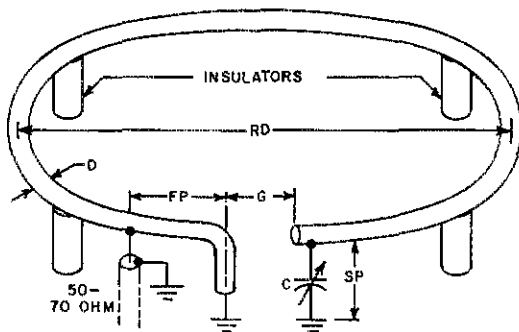

Fig. 1
For those who might not be familiar with the DDRR Antenna, a few words of explanation are in order. This antenna, dubbed the Directional Discontinuity Ring Radiator by its inventor, J. M. Boyer, was devised to satisfy a need for very low frequency antennas on ship board. Basically the antenna consists of a 1/4-wavelength element grounded at one end and wound into a single turn coil, a few conductor diameters above the ground (see Fig. 1). Dimensions for resonance are affected by conductor diameter, ring radius, gap separation, and height above ground.
* See Fig. 1 for explanation of designations.